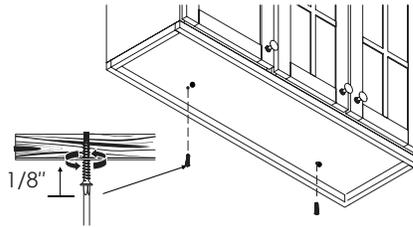

Figure 15
3. It is recommended that a pilot hole be drilled in the mounting hardware surface for wood screws. Pre-drill holes on the mounting surface with a 1/16" drill bit for softwoods and a 3/32" drill bit for hardwoods (fig. 15).